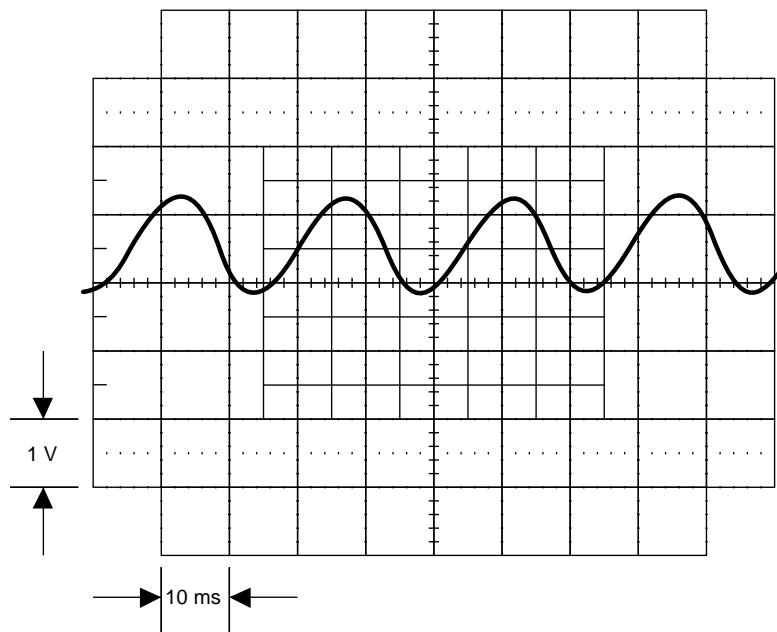

Figure 5-28. Waveform at Pin 6 of U11
6. Check the ERROR INTEGRATOR output. Set the 5700A to 1.0V at 1 kHz, operate. Connect an oscilloscope to U11 pin 6 (common to TP2) which is ERROR INT. OUT. Set the oscilloscope to 500 mV/div and 200us/div. The oscilloscope should display a ripple similar to Figure 5-28. The dc level of this signal can be between -5V and +5V. If an error is detected, check U11 and associated components.